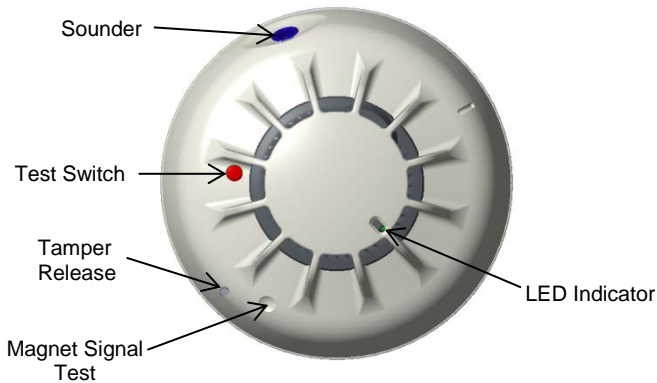

Figure 4 LEDs, Sounder, Test Switch and Signal Test Locations
1. Locate the test switch opening on the detector housing. (Figure 4)
1. Locate the detector test switch opening located on the detector cover (Figure 4).
4. While the LED is blinking spray a very small amount of canned CO gas tester such as **Solo brand C6 canned CO** into the detector chamber area located on the top center area of the detector (figure 4).
This switch has multiple functions and is located in an opening on the detector housing as shown in figure 4. To activate the switch insert a small screwdriver or similar tool (2mm max.) into the test switch opening; push and hold for the time associated with the desired test. Pressing this switch will not cause an alarm at the control panel. The functionality of the button will be dependent upon the detector configuration. For example the button will not perform the CO fast test if the detector is configured as a smoke alarm.